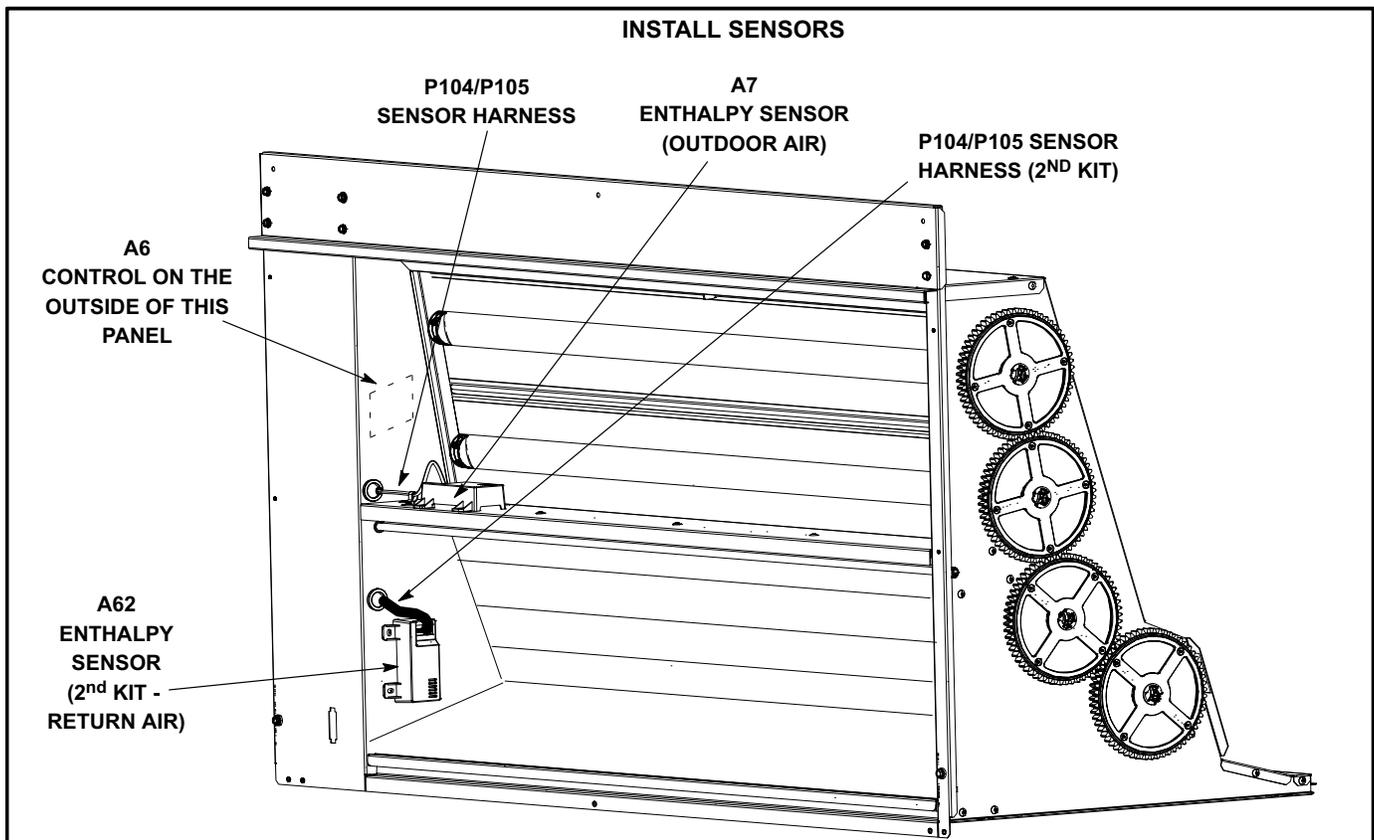

FIGURE 4
- 4- Install sensors as shown in figure 4.
- 5- Route sensor harness (both harnesses in differential sensing applications) through economizer side panel. See figure 4.